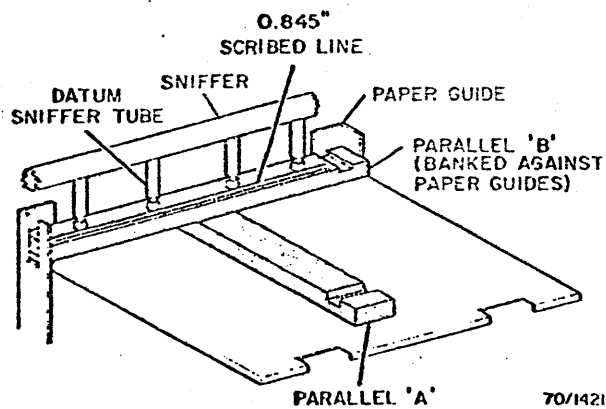

Fig. 3-59. Sniffer Down
3. Place the parallel bars on the tray as shown in Fig. 3-59.